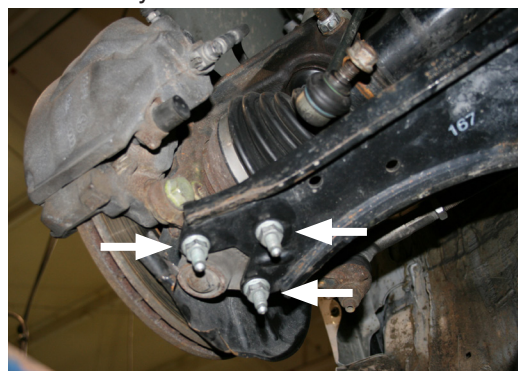

fig. 4
3. Remove the three lower nuts from the lower ball joint and control arm (fig. 4). Detach the ball joint and hub assembly from the control arm.